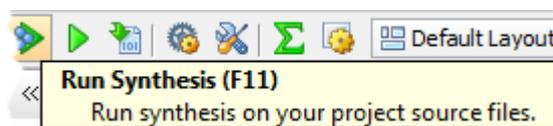

Figure 1.6: Toolbar tooltips
2. **Main Toolbar** - The main toolbar provides easy access to the most commonly used Vivado IDE commands. Tooltips provide information about each command on the toolbar and these can be viewed by hovering the mouse pointer over the buttons, as shown in Figure 1.6.